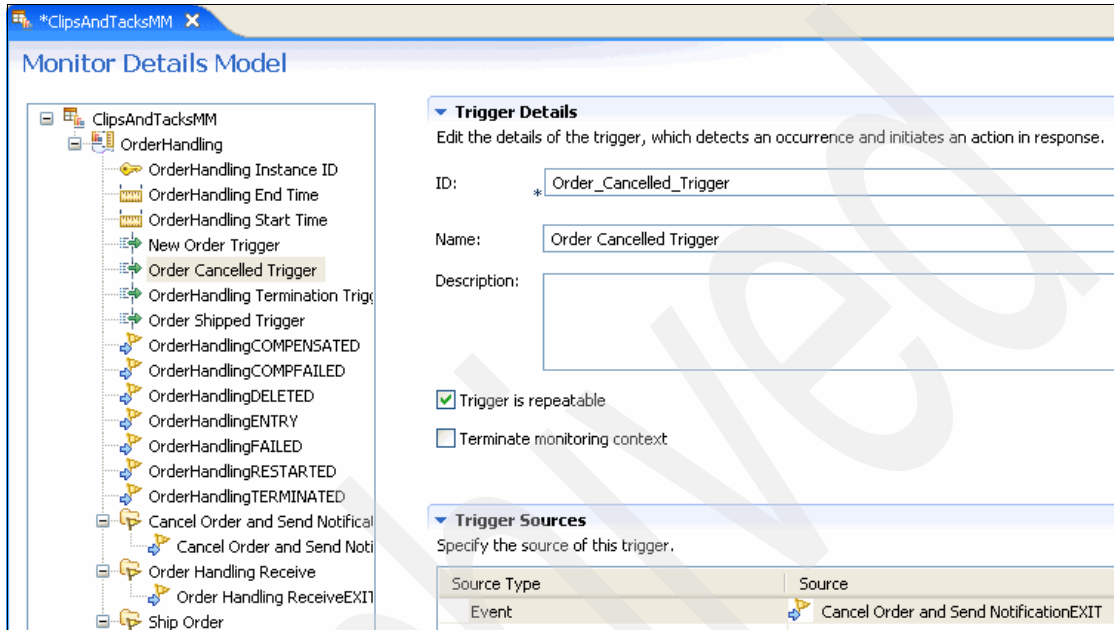

Figure 5-34 Order Cancelled Trigger overview
3. In the Monitor Details Model panel (Figure 5-34), under Trigger Sources: